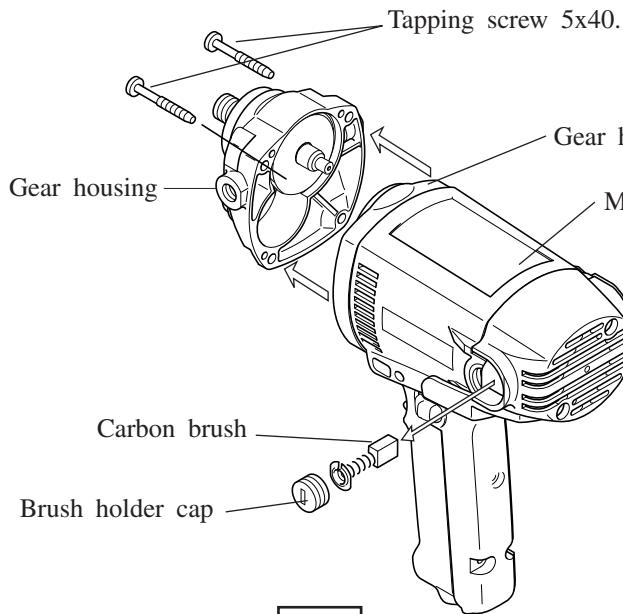
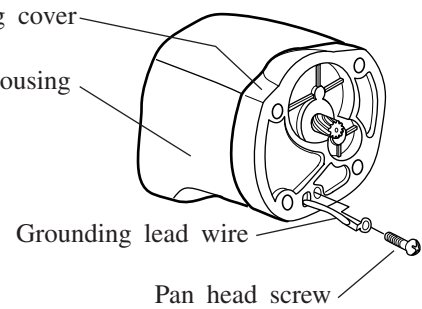

Fig.9
Fig. 9A
- (1) Take off accessories (rubber pad, abrasive disc. etc.) from the machine, and remove carbon brush.
- (2) Disassemble gear housing from motor housing by unscrewing 4 pcs. of tapping screws 5x40. See Fig.9. In case of Mod.PV7001 and PV7001C, disconnect the grounding lead wire from gear housing cover by unscrewing pan head screw. See Fig. 9A.